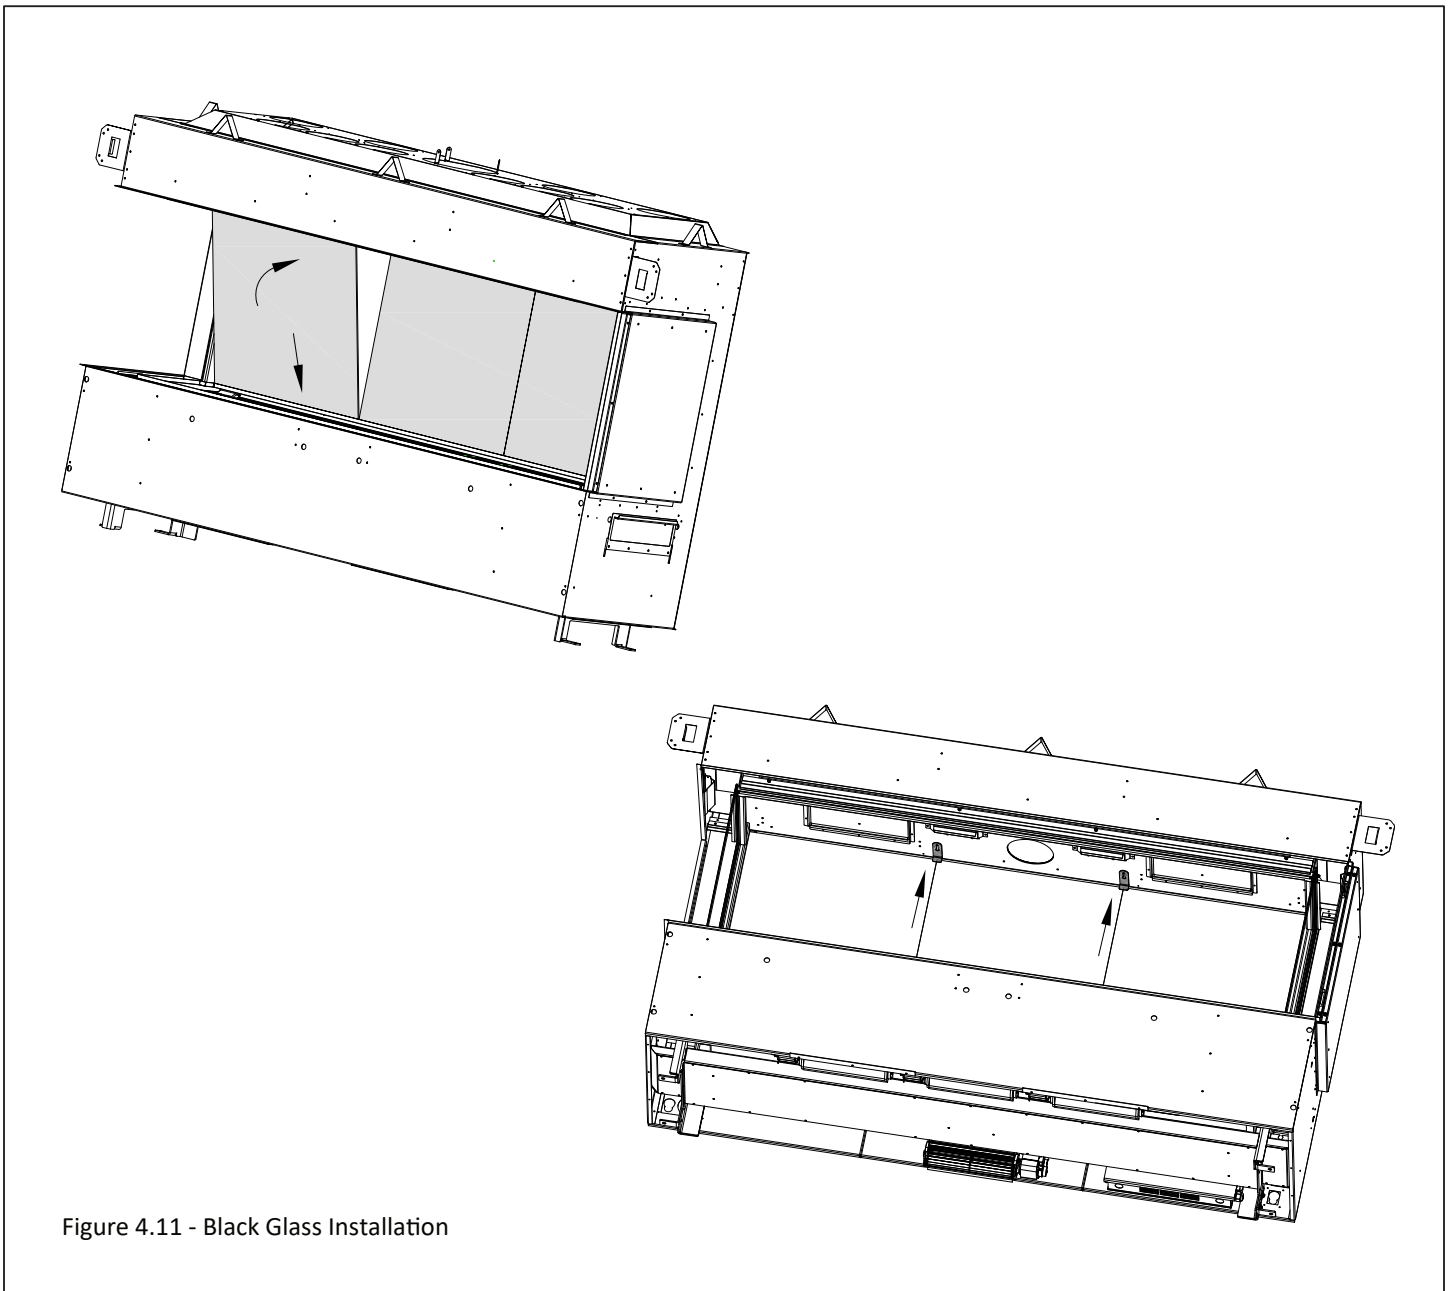

Figure 4.11 - Black Glass Installation
2. Install the (3) rear interior firebox black glass panels. These three panels are the same size and interchangeable. Secure with (2) rear firebox panel clips and (2) sheet metal screws as shown. See Figure 4.11